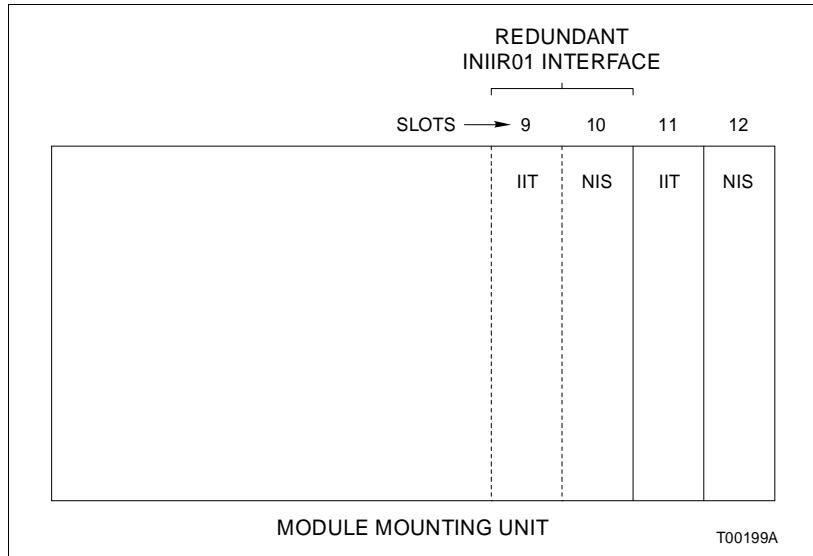

Figure 3-5. Typical INIRO1 Module Slot Assignment in the Module Mounting Unit
1. There must be two empty slots (side by side) available in one module mounting unit (on each loop) to install one interface. Redundant interfaces require four slots or more depending on the application (refer to Figure 3-5). Additional slots will be needed if using redundant digital I/O modules to enable a transceiver. Prepare the module mounting units in which to mount the interface so that the required slots are available.